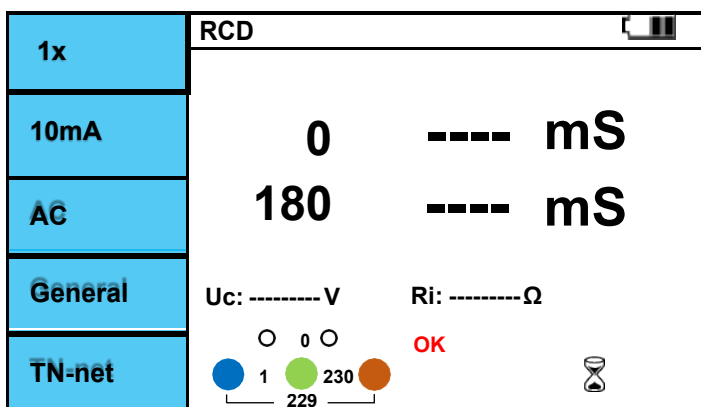

Figure 6.6.8 RCD / x1/2,x1,x2,x5 screen.
- IV. If there is no problem with the test lead connection, "OK" is displayed as shown in Figure 6.6.8